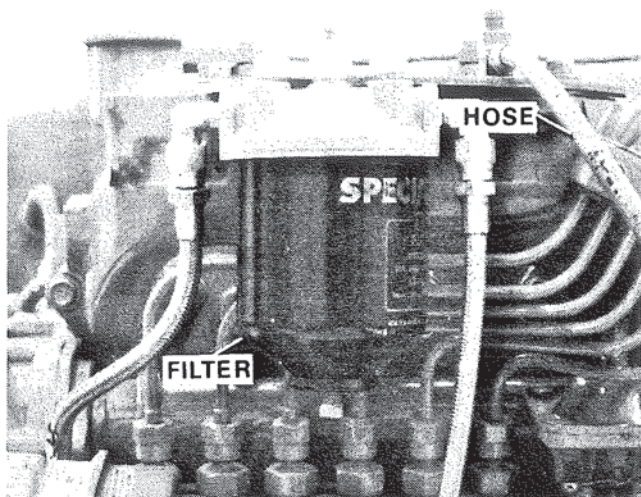

Figure 14. Removing Fuel Filter.
4. Remove fuel filter from intake manifold. Disconnect aneroid hose from intake manifold, (T.I. & T.W. only). Figure 14.